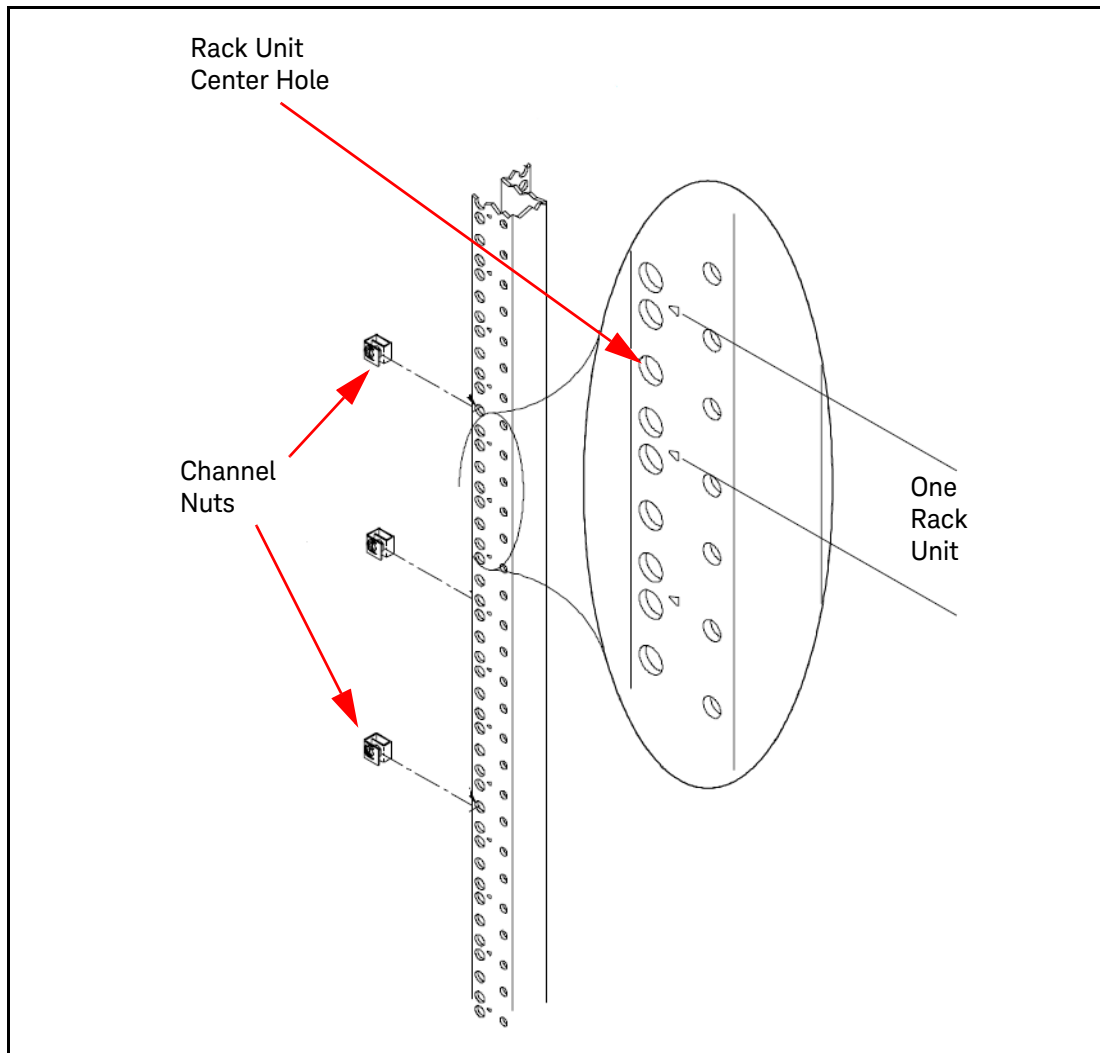

Figure 4 . Center Holes of EIA Rack, Attaching Channel Nuts
- 6 Using the rack mount flanges as templates, position the flanges on the rack's vertical columns where the chassis is to be mounted. Align the adapter holes over the "center" holes of the EIA rack units. Slide channel nuts over the rack holes to be used by the rack mount flanges. See Figure 4.
- 10 Attach the support rails UPSIDE DOWN to the rack's inside vertical columns. Use four channel nuts and the four 10-32 x 0.5 support rail-to-rack pan head screws as shown in Figure 4.